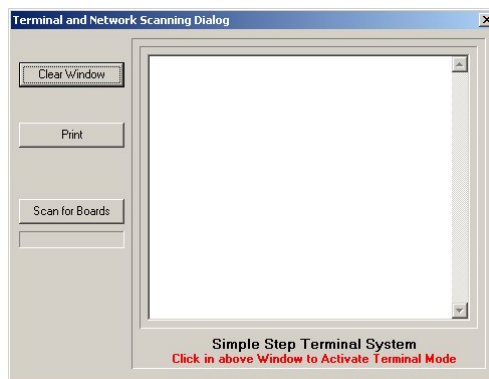

Figure 15 Terminal and Network Scanning Dialog Box
- b. Click inside the *Simple Step Terminal System* window (Figure 15) and type the letter 'A'.
3. Select **File > Terminal and Network Scanning** from the SSWin menu bar. The *Terminal and Network Scanning Dialog* box is displayed (Figure 15).